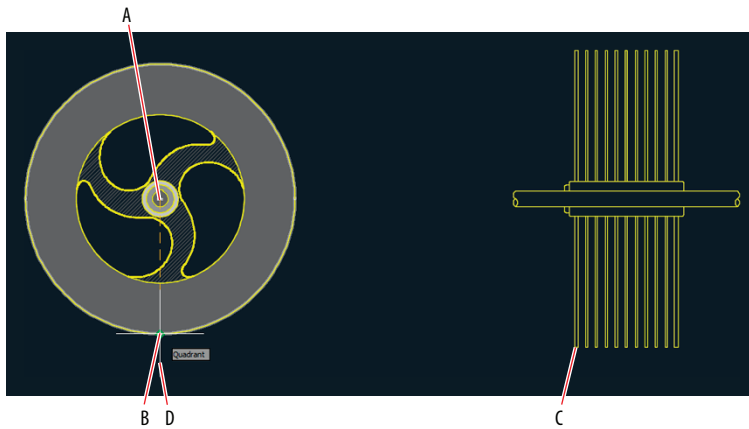

FIGURE 8.11 Scaling up the outer circle of the rotor enlarges its associative hatch.
6. Click the Scale tool on the Modify panel, select the rotor's outer circle, and press Enter. Select the center of the rotor (point A in Figure 8.11) as the base point. The command prompt reads as follows:
Type **R** (for Reference) and press Enter. Pick the reference length by clicking points A and B shown in Figure 8.11.
7. Hover the cursor over point C shown in Figure 8.11. Then bring the cursor back toward point D. When the tracking X appears on the drawing canvas, click point D. When the SCALE command ends, the rotor matches its depiction in the drawing on the right and the solid associative hatch fills the new boundary.